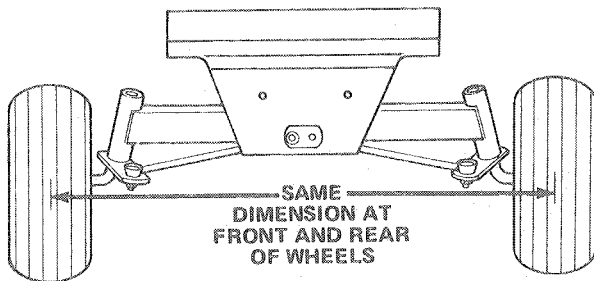

Figure 51
2. Loosen the jam nuts on both tie rods. Adjust both tie rods until center-to-center distance at front and back of rear wheels is the same (Fig. 51).